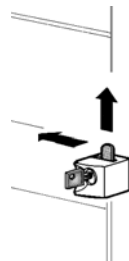

figure 11
- 3 - It is possible to lock the door of the dispenser (see figure 11).